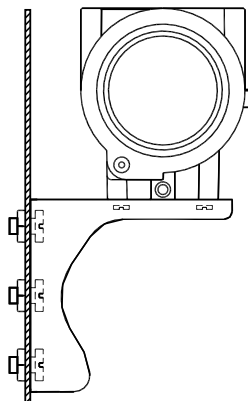

Figure 2.2 The installation of plate mounting angle bracket
**The installation of plate mounting angle bracket:** the typical installation as Figure 2.2 shows. Fix NCS-IF105 converter in angle bracket using four bolts provided, and then fix the angle bracket on the plate through the M10 bolt not provided.